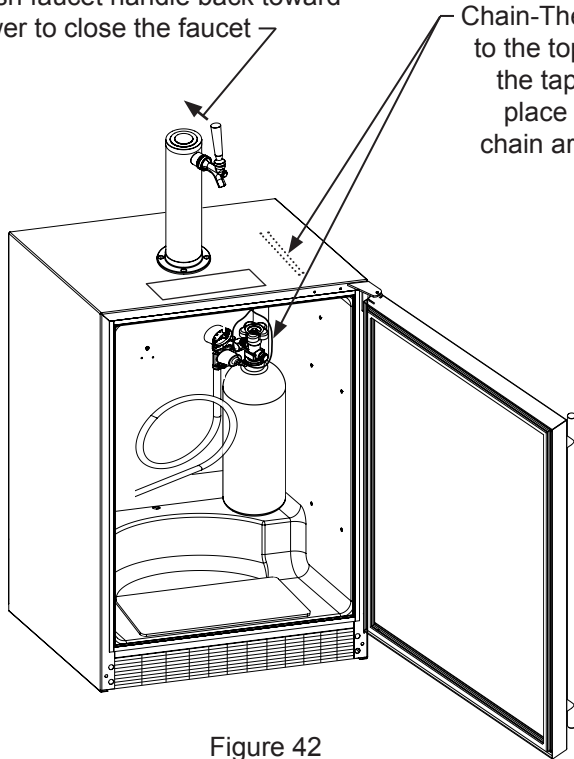

Figure 42
- Locate the CO₂ tank in the corner of the refrigerator as shown in Figure 42 and secure with the chain. Close the faucet handle on the tower.